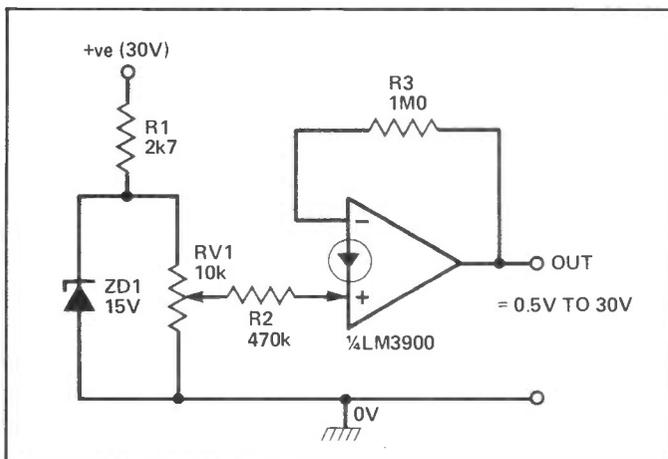
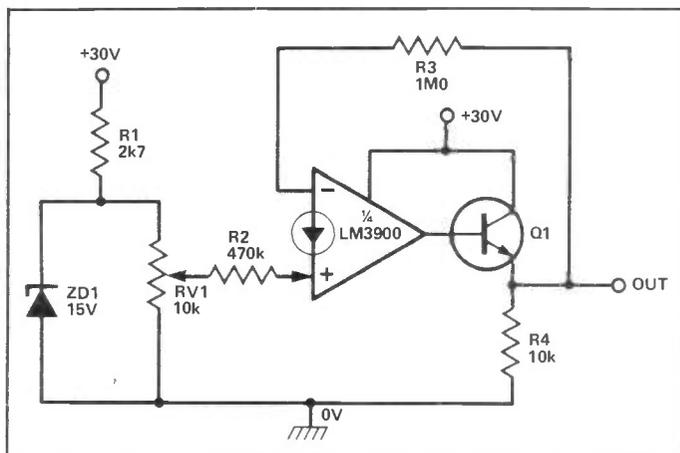

Figure 25: Variable-voltage regulator.
Figure 26: Variable-voltage regulator with boosted output.
**Figure 25** shows an alternative type of voltage regulator, which gives a well regulated variable-voltage output. In this case the op-amp is wired as a x2 non-inverting DC amplifier (with gain determined by the R3-R2 ratio), and the input voltage is variable between zero and 15 volts via ZD1 and RV1. The output voltage is thus variable over the approximate range 0.5 volts to 30 volts. **Fig. 26** shows how the available output current can be boosted to tens or hundreds of mA with the aid of an external transistor.